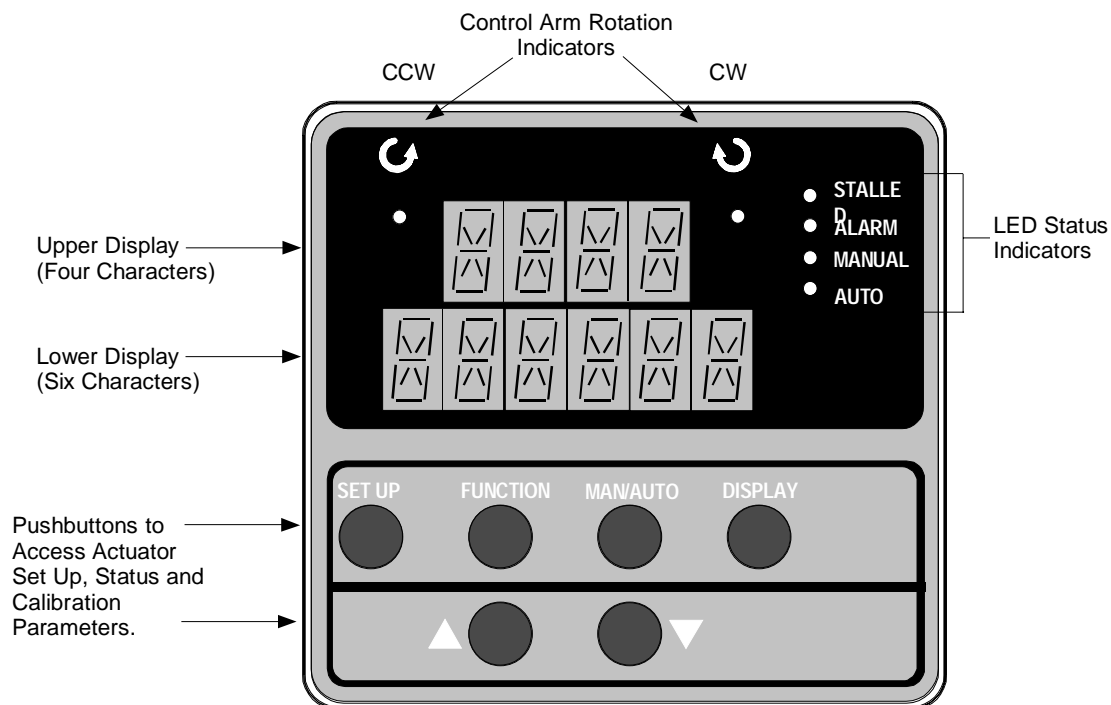

Figure 2 Local HMI (Display and Keypad)
- **Local HMI Configuration** – An integral keypad and high intensity display is available for non-intrusive local configuration of the actuator (Figure 2).
Configuration and set-up is through the local HMI, consisting of a display and keypad interface (Figure 2). A high intensity 10-character LED display and simple push buttons provide quick access for actuator set up and status information. A PC configurator allowing remote configuration will be available in early 2001. If relay outputs are specified, all configuration can be done through either the local HMI interface or the PC configurator. If mechanical switches are specified, then the user must manually set the auxiliary output.